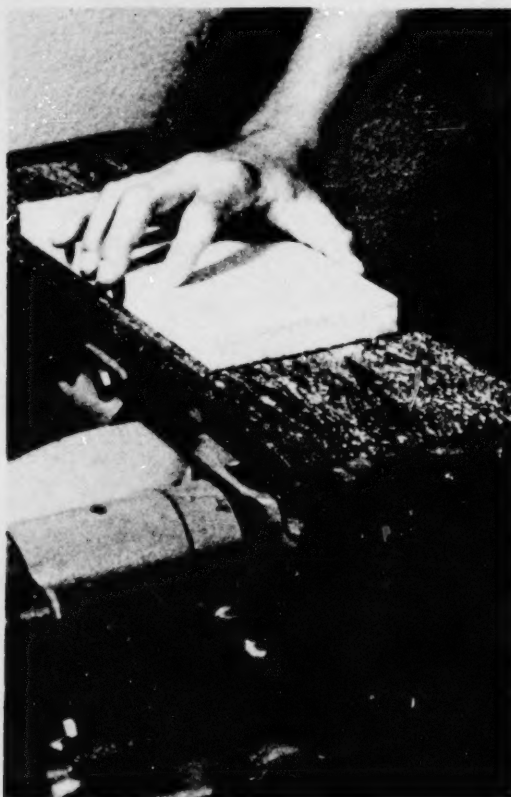

Figure 18-2 Using a belt sander
3. Taking care to keep your fingers away from the belt, press the wood down on the belt firmly and evenly so that one side is not sanded more than the other (*Figure 18-2*).